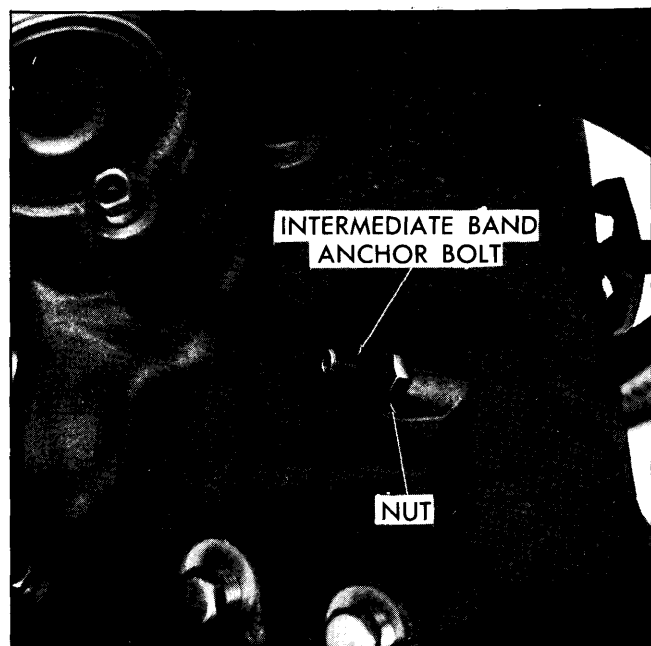

Fig. 7-34—Intermediate Band Anchor Bolt
3. Loosen nut and intermediate band anchor bolt. (Fig. 7-34)